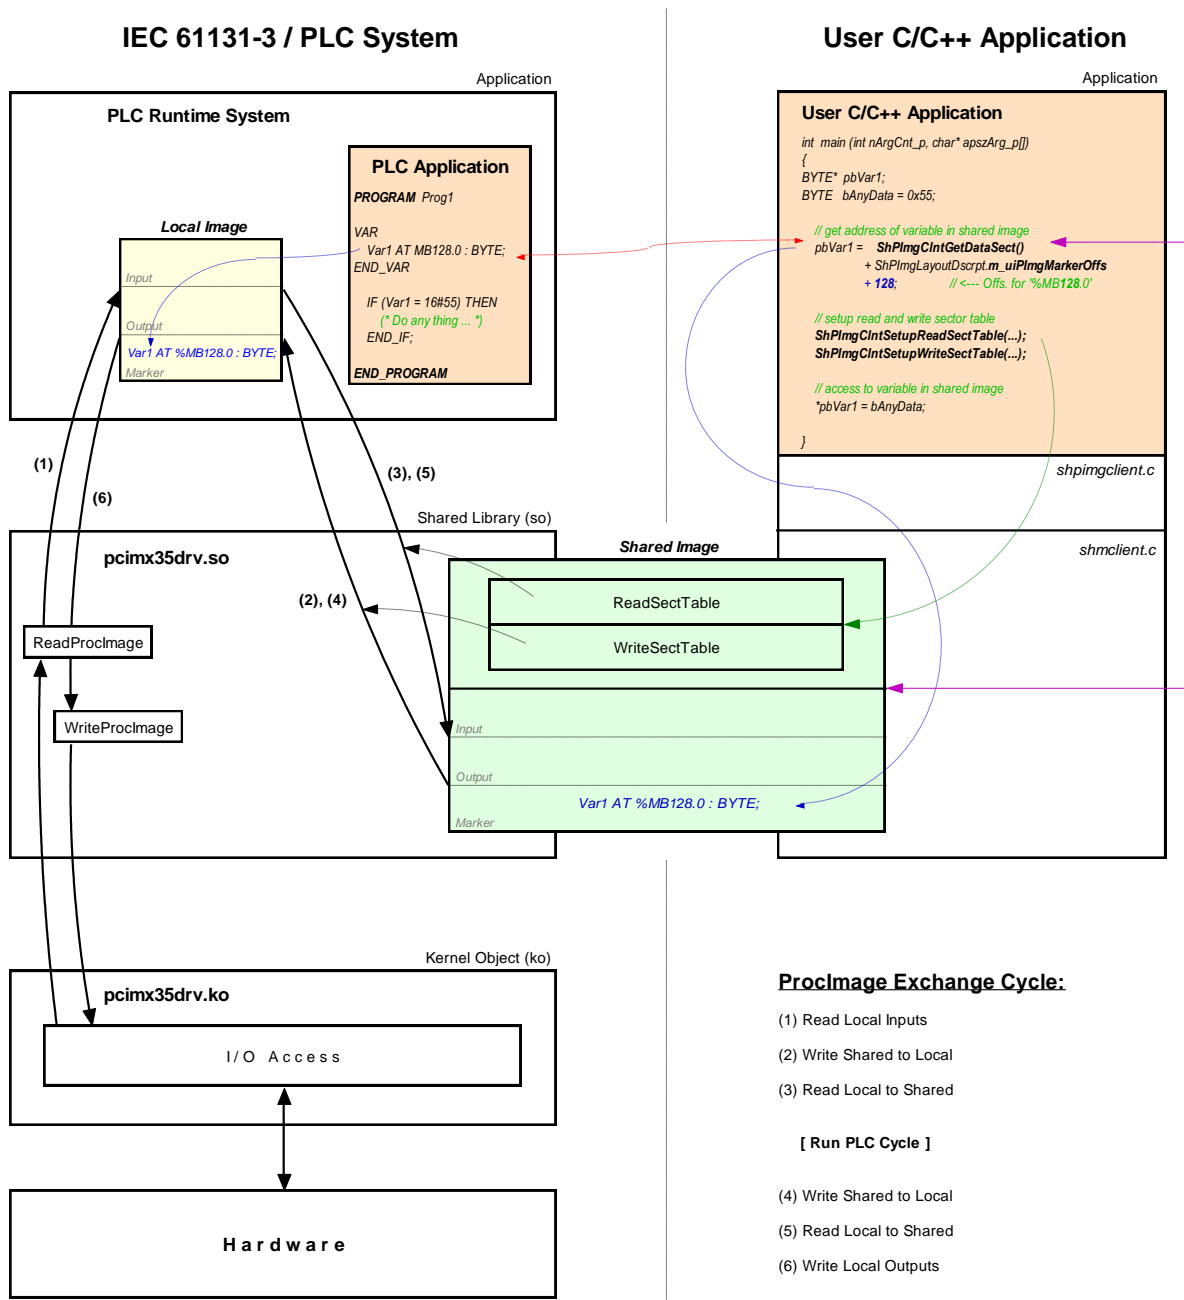

Figure 29: Overview of the shared process image
Not all variables are utilizable via the shared process image within a C/C++ application. Only those directly addressed variables that the PLC program generates within the process image. As shown in Figure 29, two separate process images are used for the data exchange with an external application inside of the PLC runtime system. This is necessary to meet the IEC 61131-3 requirement that the initial PLC process image may not be modified during the entire execution of one PLC program cycle. Thereby, the PLC program always operates with the internal process image that is locally generated within the PLC runtime system ("Local Image" in Figure 29). This is integrated within the PLC runtime system and is protected against direct accesses from the outside. On the contrary, the user-specific, external C/C++ application always uses the shared process image ("Shared Image" in Figure 29). This separation of two process images enables isolation between accesses to the PLC program and the external application. Those two in parallel and independently running processes now must only be synchronized for a short period of time to copy the process data.
An activation of option **"Share PLC process image"** within the PLC configuration enables data exchange with external applications (see section 7.4.1). Alternatively, entry *"EnableSharing="* can directly be set within section *"[Proclmg]"* of the configuration file *"/home/plc/bin/plc_core-imx35.cfg"* (see section 7.4.3). The appropriate configuration setting is evaluated upon start of the PLC firmware. By activating option **"Share PLC process image"**, the PLC firmware creates a second process image as Shared Memory ("Shared Image" in Figure 29). Its task is to exchange data with external applications. Hereby, the PLC firmware functions as Server and the external, user-specific C/C++ application functions as Client.
Sections to read and write may comprise all sections of the entire process image – input, output as well as marker sections. This allows for example that a Client application writes data into the input section of the PLC process image and reads data from the output section. Figure 29 shows the sequence of single read and write operations. Prior to the execution of a PLC program cycle, the physical inputs are imported into the local process image of the PLC (1). Afterwards, all sections defined in *WriteSectorTable* are taken over from the shared process image into the local process image (2). By following this sequence, a Client application for example is able to overwrite the value of a physical input. This may be used for simulation purposes as well as for setting input data to constant values (*"Forcen"*). Similarly, prior to writing the process image onto the physical outputs (6), sections defined in *WriteSectorTable* are taken over from the shared process image into the local process image. (4). Thus, a Client application is able to overwrite output information generated by the PLC program.
As illustrated in Figure 29, the user-specific C/C++ application exclusively uses the API (Application Programming Interface) provided by the *shared process image client*. This API is declared in the